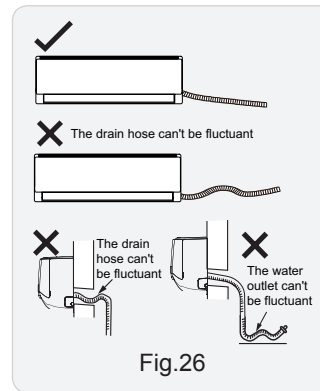

Fig.26
(2) Slant the drain hose slightly downwards. The drain hose cant be curved, raised and fluctuant, etc. (As show in Fig.26)